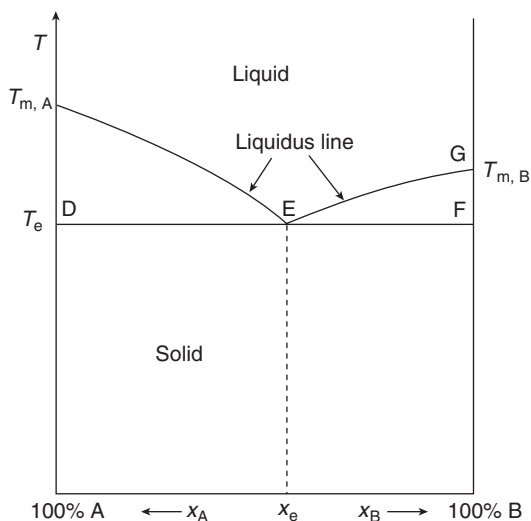

Figure 3 Solid–liquid equilibria in two-component system.
This process is repeated for various compositions, and thereby we get various transition points. By joining these points we can construct the phase diagram for the system. The solid–liquid boundary is represented by the points at which the rate of cooling changes. A plot for this system showing the variation of freezing point with composition is represented in Figure 3.
3. **Eutectic point:** Point E represents the eutectic point in the Figure 3. The *eutectic* (Greek: easily melted) point is defined as the lowest melting point attained by the mixture. The longest eutectic halt gives the location of the eutectic composition and its melting temperature.